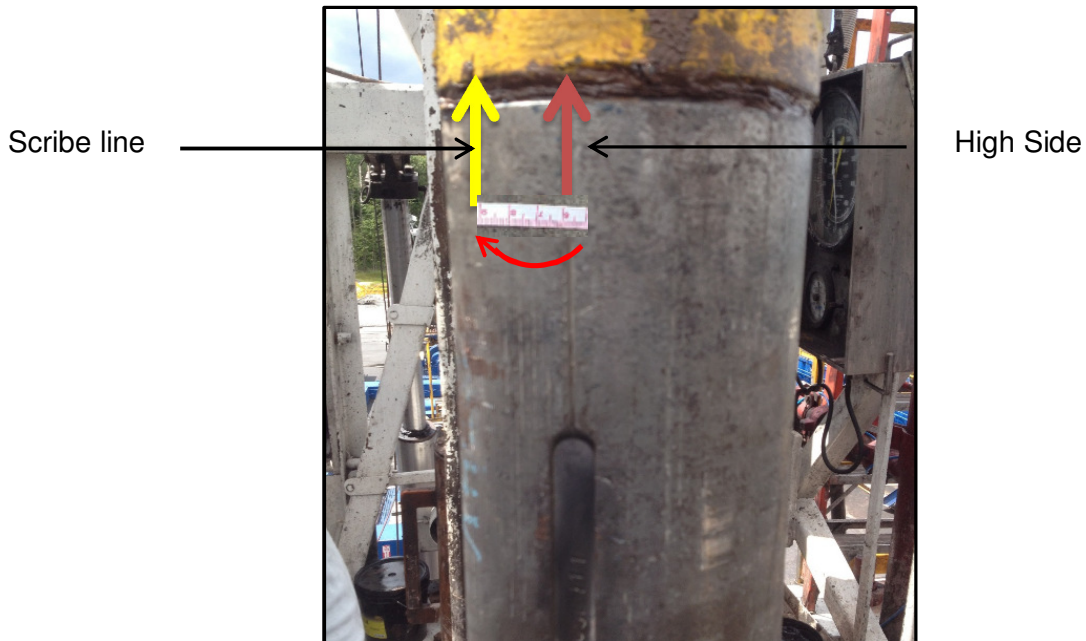

Figure 14 Drill offset Arc
12. Measure the Drill offset arc from the Gap sub high side to the Motor scribe line looking down in a clockwise direction. The Drill offset arc illustrated for the specific example in Figure 14 is 4 units.
For the Example illustrated in Figure 14/14, the Drill offset Angle is calculated as